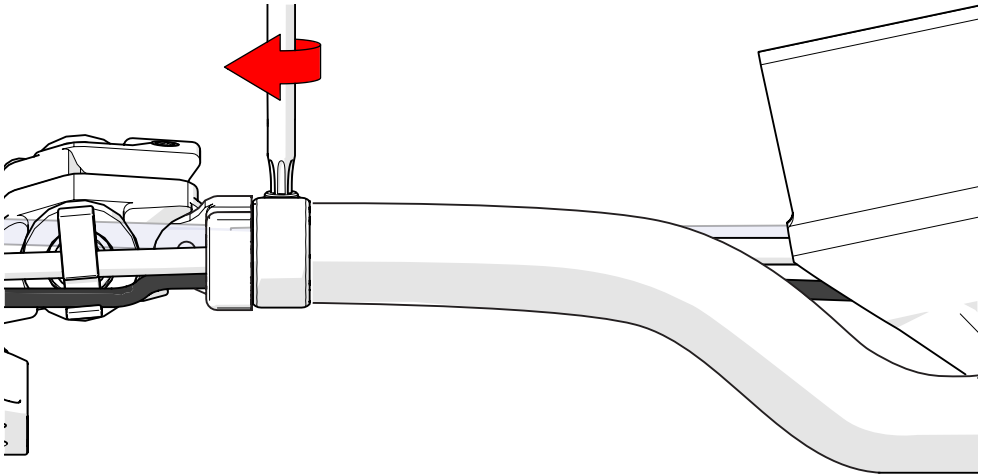

Fig. 66 - Tighten sleeve clamp screw
10. Tighten the sleeve clamp screw pinching the sleeve in place with the sleeve clamp bracket (Fig. 66).